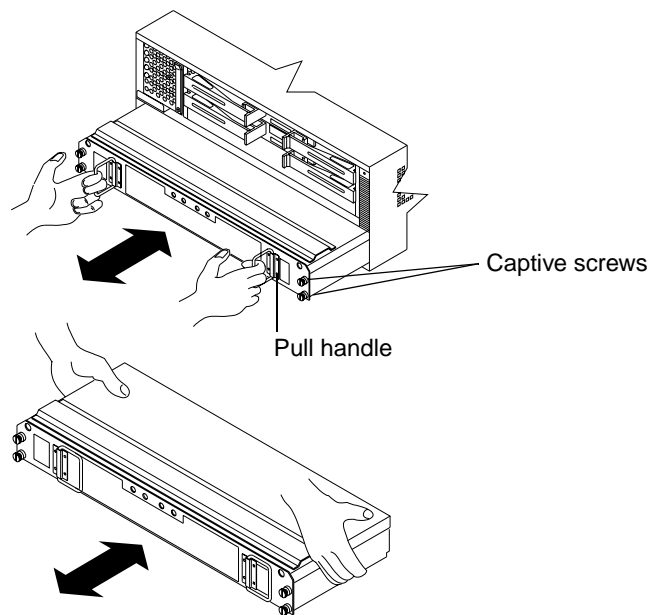

Figure 19. Removing and installing a battery
The battery CRU contains rechargeable batteries and a battery-charger board. The battery CRU plugs into the front of the controller unit (see Figure 19 on page 37) where it provides backup power to the controllers cache memory. During a power outage, a properly charged battery CRU maintains electrical current to the controllers for up to five days with 256 MB cache memory installed and up to 3 days with 512 MB cache memory installed. Therefore, all data stored in memory is preserved as long as the batteries can sustain power to the cache memory. However, the battery does not provide power to the rest of the system during a power outage. Therefore, the system is not able to write data to drives without a backup power source.
- 5 Using Figure 19 as a guide, remove the battery.